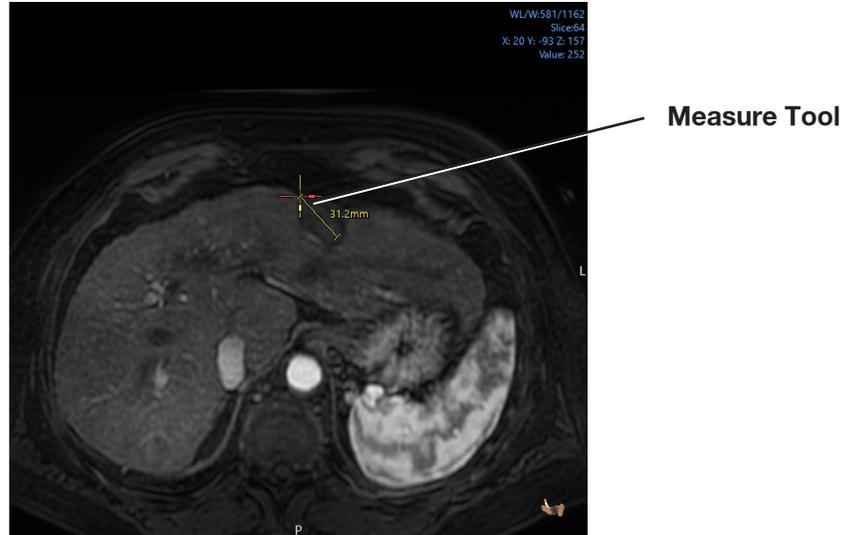

Figure A-6: Using the Measure Tool.
3. Drag the tool pointer to the desired endpoint and release the mouse button. The line appears with the measurement shown in mm (see Figure A-6).